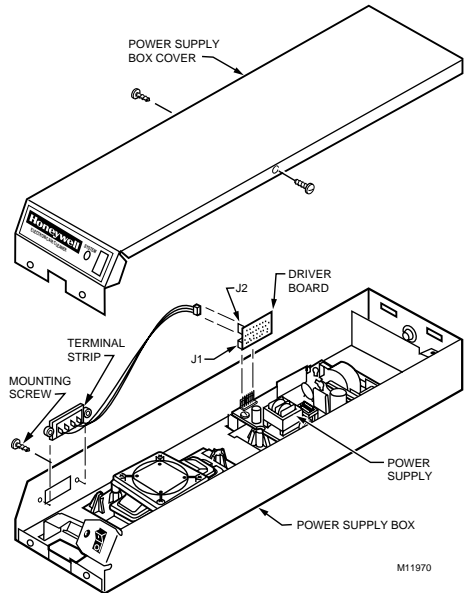

Fig. 5. Installing the driver board on the EAC.
9. Plug the connector on the end of the cable assembly into the J2 terminal on the driver board (included with W8600F kit). See Fig. 5.